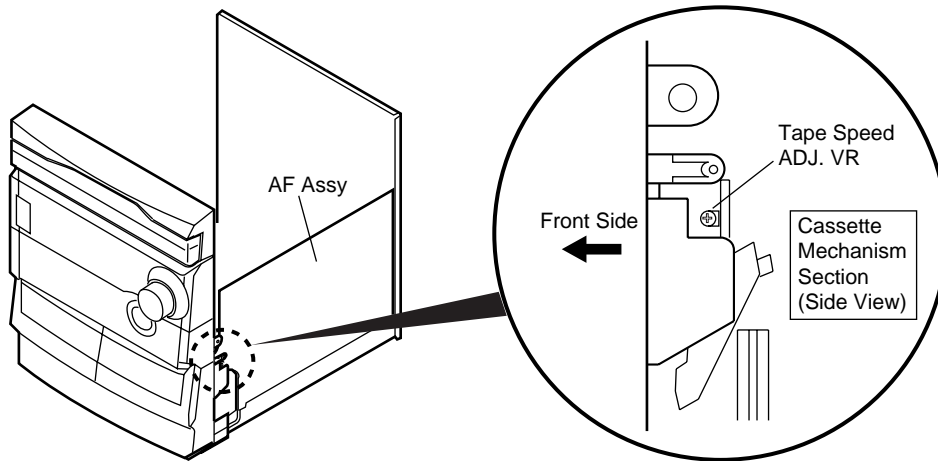
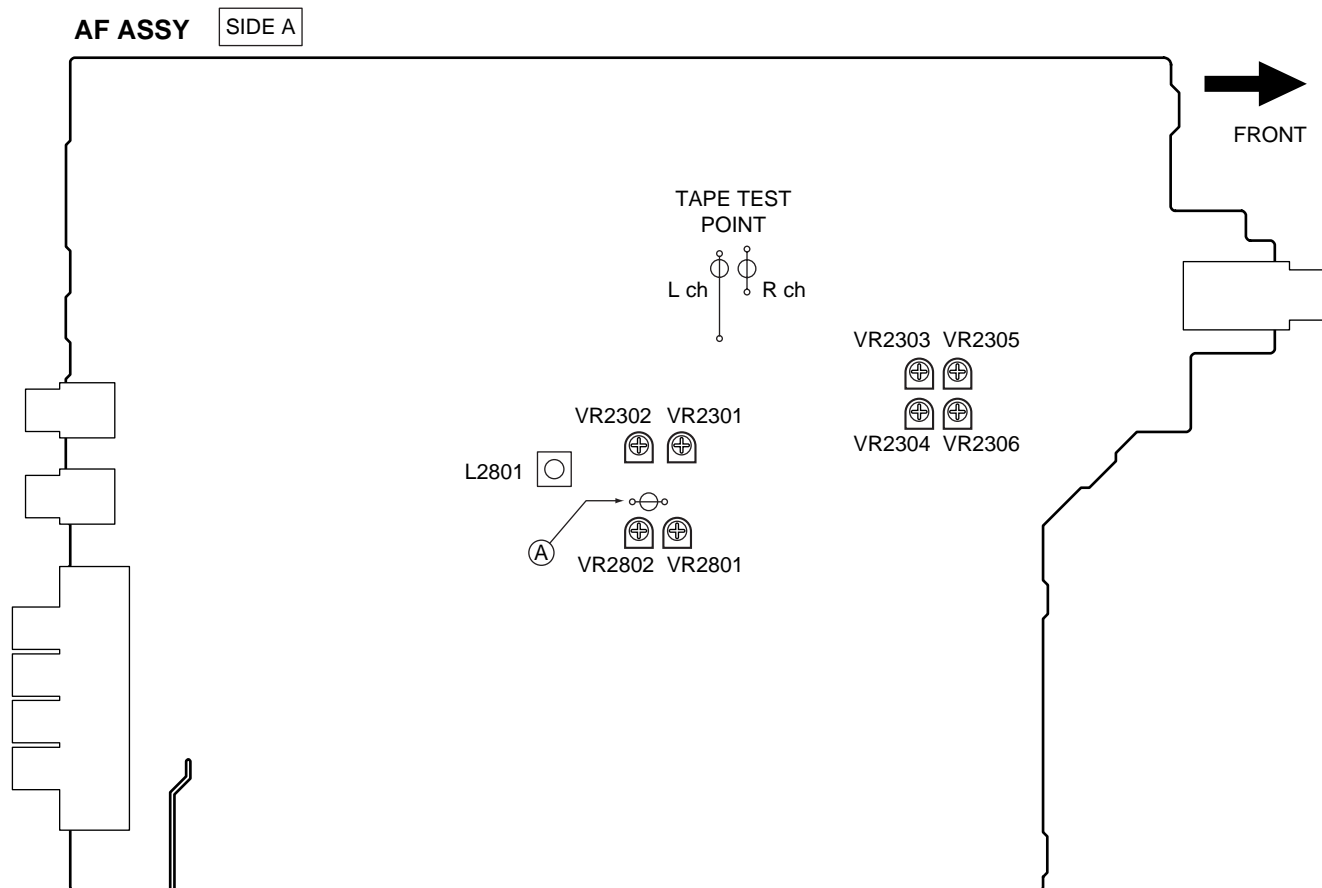

Fig.3 Tape Speed ADJ. Point
Fig.7 Adjustment and Measurement Points
• Adjustment points and test points are shown in Fig.3, Fig.5 and Fig.7.